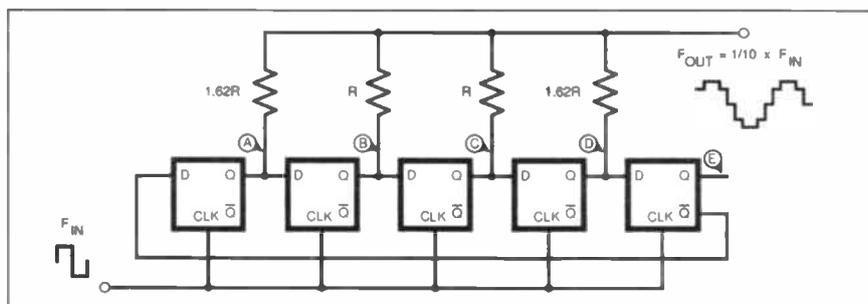

Fig. 1. Simplified digital sinewave generator using D-type flip-flops.
A simplified version of the method is shown in Fig.1. Five D-type flip-flops
Assuming all outputs are zero at the outset, clocking the flip-flops will generate a repeating sequence of the output states as shown in Table 2. If four of these outputs are now parallel connected through resistors with suitable value ratios as marked, the output will be the "stepped" approximation of a sinewave as shown in Fig.1. The fifth output is not used so the highest and lowest output voltages remain the same for two clock cycles to simulate the flatter "tops" and "bottoms".
A couple of additions are necessary for IC2 and IC3 to operate correctly in series. To begin with, they are intended to be used as programmable counters. To simplify this their outputs are all Q so that applying any one to the "input", equivalent to the first Data (D) input of Fig.1, will complete the loop for the appropriate number of clock cycles.